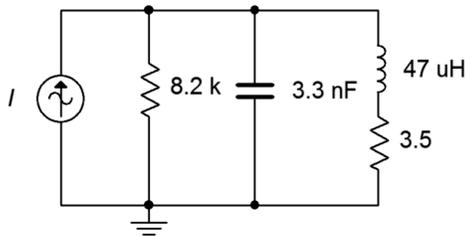

Figure 8.10
24. Given the circuit shown in Figure 8.10, determine the resonant frequency, system  $Q$  and bandwidth. If the source is 2.5 mA, determine the resistor voltage and the three branch currents at resonance.